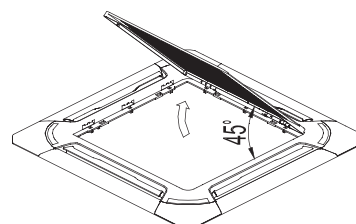

Fig.5-8
- Draw the grill up to an angle of about 45°, and remove it. (Refer to Fig.5-8)